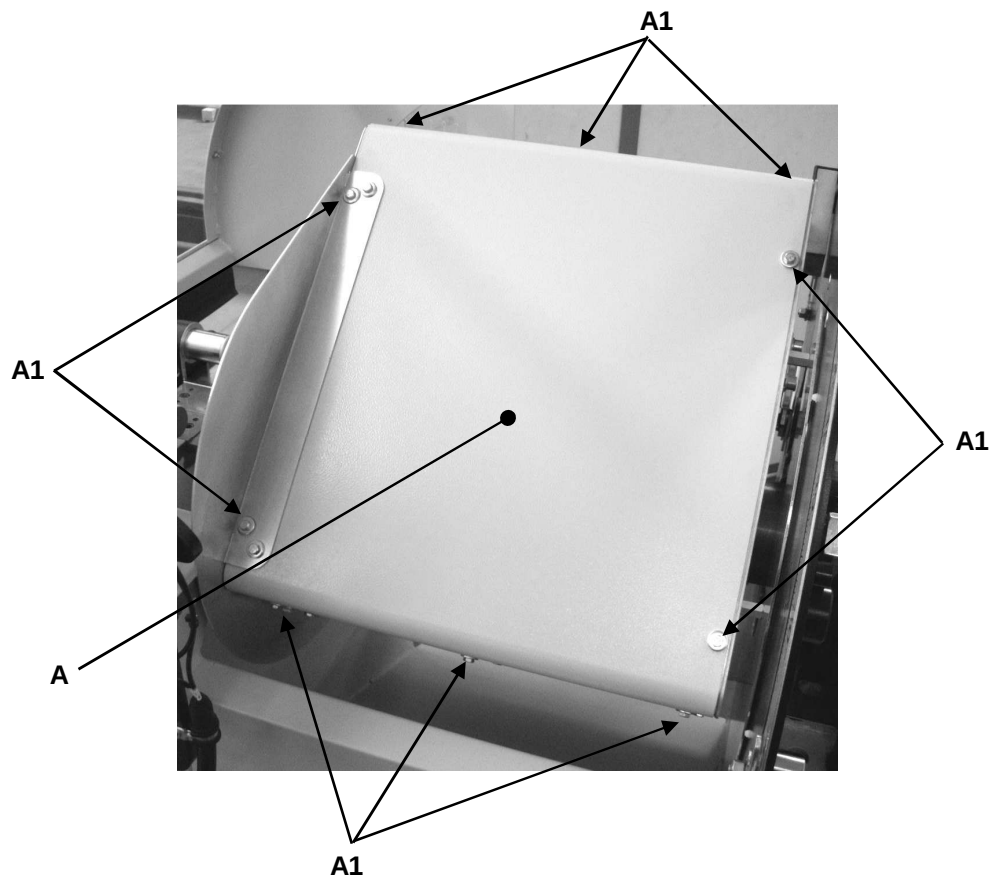

Fig. 10-02
- Check the incoming air pressure on gauge "B" (**Fig. 10-02**).
Without disconnecting the air supply hose, press knob "C" - **Fig. 10-02** making sure that the relative ring is open. The condensation is in any case drained automatically (with the ring open) each time the air supply hose is disconnected.
Remove outer casing "**A**" that encloses the blade by undoing the 10 screws "**A1**" (**Fig. 10-02**).
Lastly, refit the outer safety guard "**A**" securing the 10 fixing screws "**A1**" (**Fig. 10-02**).